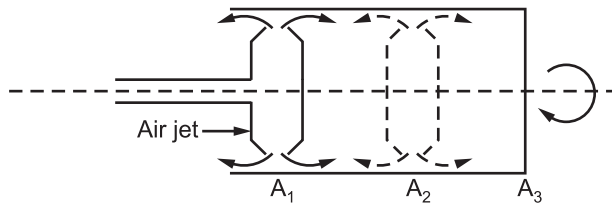

Fig. 2.8: Air jet pneumatic comparator
- Due to restricted area at position A_1 , the back pressure is generated by head of water displaced (h) in the manometer tube. Refer Fig. 2.8.